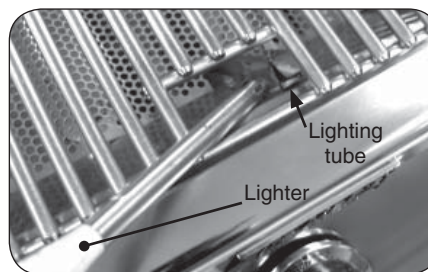

Fig. 21-2 - Manual lighting
2. Insert either a burning long-barrel butane lighter or a burning long-stem match through the cooking grid opening to the top of the lighting tube. (Fig. 21-2). For backburners, hold the flame against the surface of the backburner. For charcoal burners, hold the flame near the burner.
4. If the burner does not light within five (5) seconds of turning the control knob, **immediately depress the knob and turn the valve to OFF**. **WAIT FIVE (5) MINUTES** before repeating steps 2 through 4 of the MANUAL LIGHTING instructions.